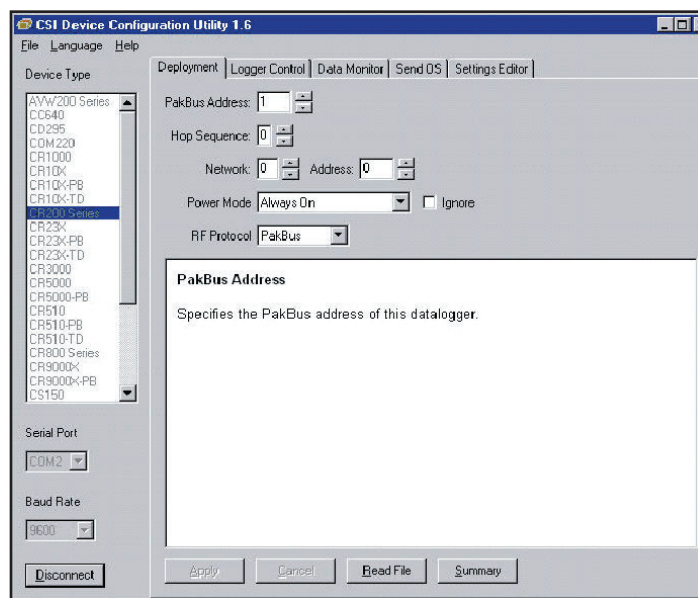

Figure 1. CR206 Setup Main Menu
6. Click the "Connect" button to establish communications with the datalogger. The Deployment panel in DevConfig will be displayed and the DevConfig parameters can now be entered (see Figure 1).